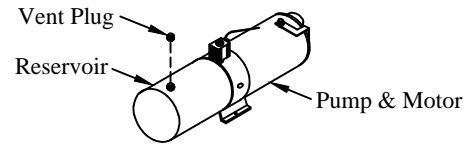

Figure 16: Vent plug.
- (1) Lower mounting kit
7. **Install** the vent plug provided into the pump reservoir (Figure 16).